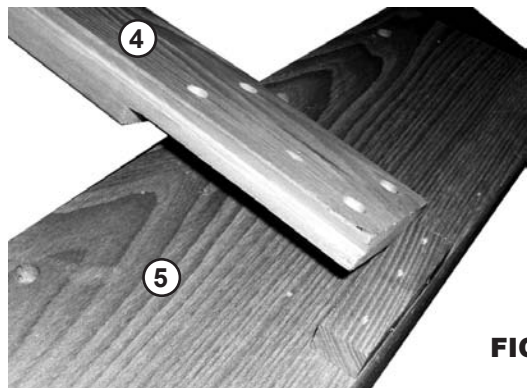
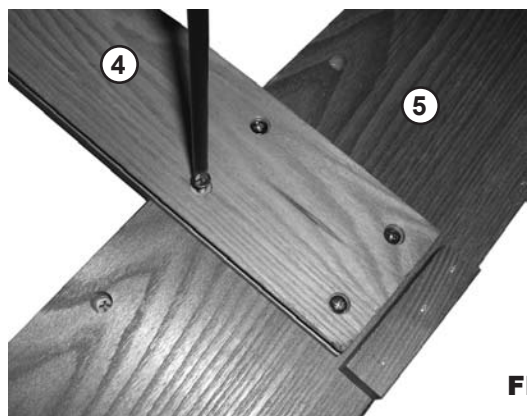

FIG 6a
FIG 6b
STEP 6. Attach Material Tray (5) to Channelled Center Column (4) using four 4 X 25mm Screws (D). See FIG 6a & FIG 6b.